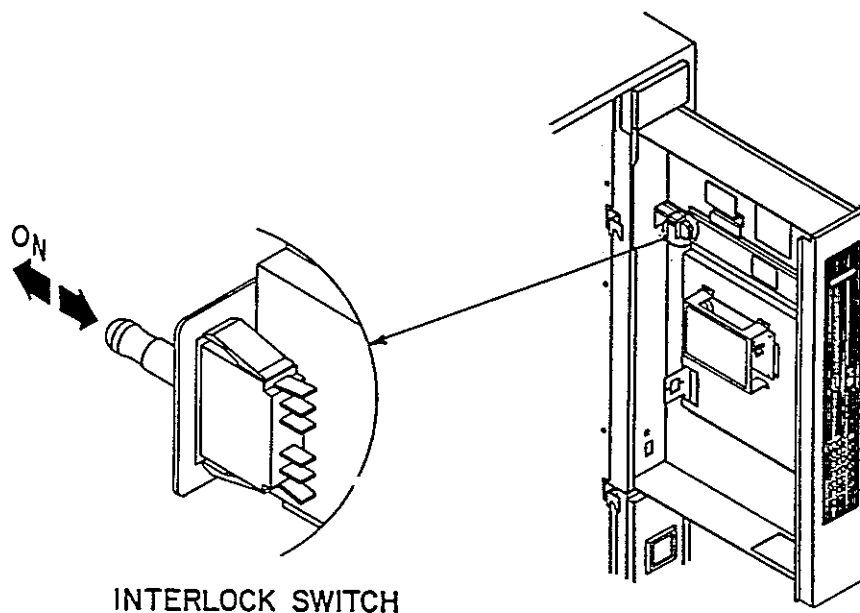
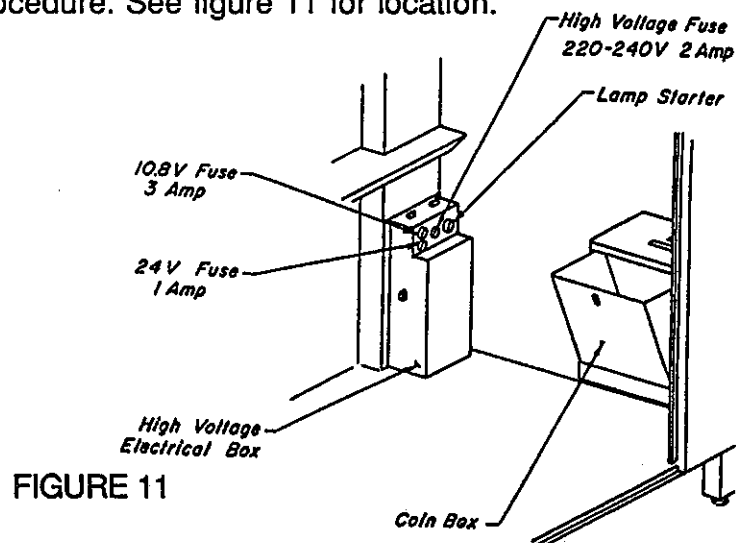

FIGURE 10
FIGURE 11
- \* Install the coin changer equipment in the slide out drawer. Remember; the power to the slide out drawer is turned off when you pull out the drawer. To energize the drawer assembly, pull the plunger out, on interlock switch (See figure 10 pg. 10). Set the desired price for each item in accordance with the coin mechanism instruction sheet and the instructions provided in the "Electrical Service" portion of this manual. Note: Instructions for setting the prices of the control board are also provided on an instruction sheet above the control board in the slide out drawer assembly.
All electrical components in this compartment are low voltage. Located in this panel are the control board, changer, power interlock and digital readout circuit board. The 220-240VAC transformer, chiller plug, light ballast, light starter and fuses are located in the high voltage electrical box located in the back of the storage area attached to the right rear brace (See Figure 11). Note: Power is shut off when the slideout drawer is pulled out. To apply power to the drawer, pull the interlock switch plunger out. See figure 10 for location.
The storage compartment is below the product display area and is accessed by opening the front door. Be sure to leave room for the delivery compartment when using the storage area. See figure 11.
The high voltage power supply is located in the bottom of the machine, to the rear of the storage compartment on the right-hand side (See figure 11 below). The fuses for the 10.8 volt, 24 volt, 220-240 volt circuits and the starter for the florescent lamp are located on the front of the power supply. Located on the left side of the power supply is the plug for the chiller unit. Also located inside the power supply are the ballast for the florescent light, the step down transformer and the RFI filter.
The coin bank is located in the bottom right hand side of the machine in the storage compartment area and is accessible when the front door is opened. An optional lock and key is available to provide additional security. To open, tilt the top of the bank to the left until it can be removed. Lift and remove coin bank, empty the coins and replace by reversing the procedure. See figure 11 for location.